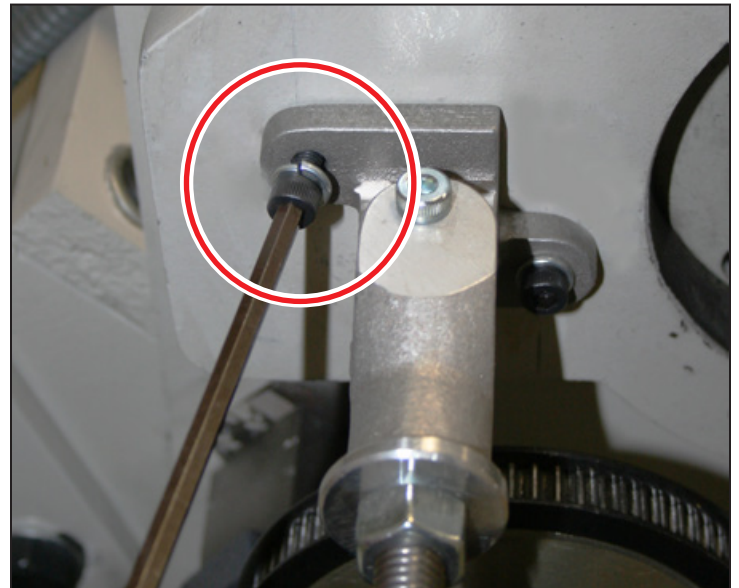

Figure 6
6. Using two M6 Socket Head Cap Screws and two M6 Lock Washers, attach Connector Bracket to lathe (see **Figure 6**).